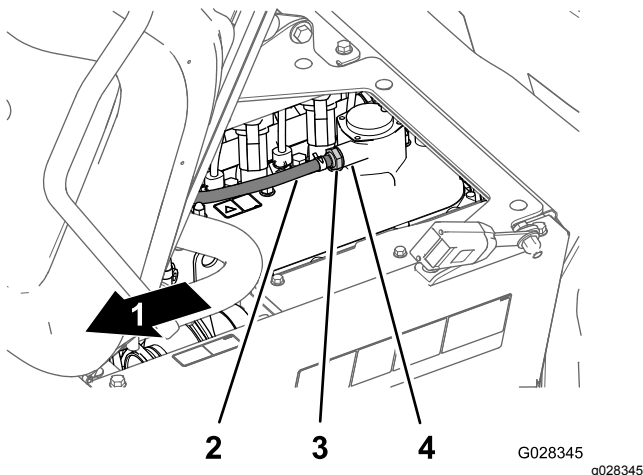

Figure 70
2. Remove the PCV valve from the fitting of the valve cover (Figure 70).
Note: If the internal restrictor of the valve rattles, the PCV valve is servicable; If the internal restrictor is not free to rattle when shaken, replace the PCV valve (Figure 70).
4. Insert the PCV valve until it is fully seated in the seal for the valve cover fitting (Figure 70).